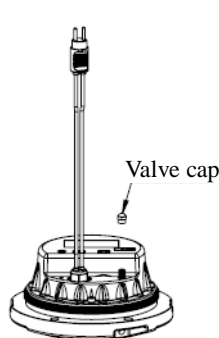

Figure 5-20
- Unscrew the valve cap at the lighting fixture bottom (see Figure 5-20).